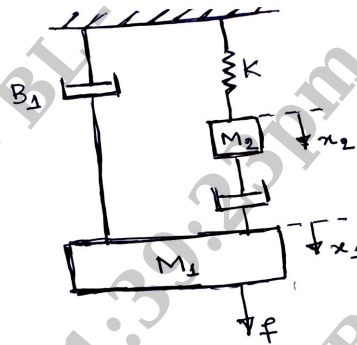

Fig. Q2 (c)
- c. Draw the equivalent mechanical system of the given system shown in Fig. Q2 (c). (10 Marks)